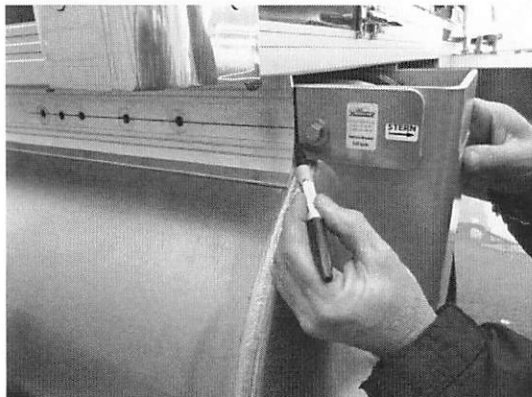

Figure 4
4. Dry-fit Pontoon Bracket. Manually lift PB Assy and guide Side Rails to the inboard side of "M" brackets (Fig 4). Adjust PB to ensure a minimum space of 1/2 between PB and dome end of pontoon OR until the PB mounting flange contacts the pontoon bumper/frame railing. Using a felt tip marker with black ink, scribe a vertical line down across Drill Guide and "M" bracket interface to "match mark" the "stern" end of "M" bracket. Remove PB Assy and disassemble Drill Guide (Fig. 4).